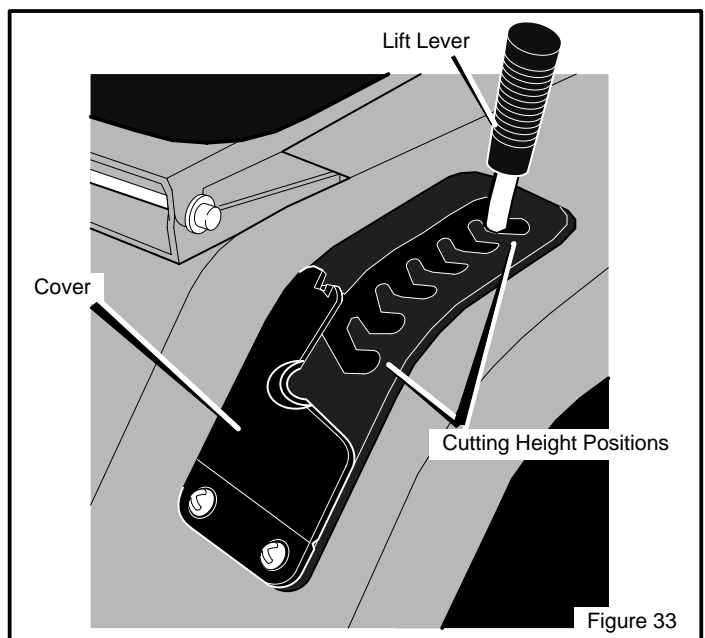

Figure 33
8. Raise the **lift lever** from the LEVEL ADJUSTMENT position to a CUTTING HEIGHT position (Figure 33).